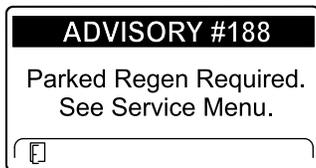

Figure 72
- Parked regeneration required ADVISORY #188 (Figure 72)